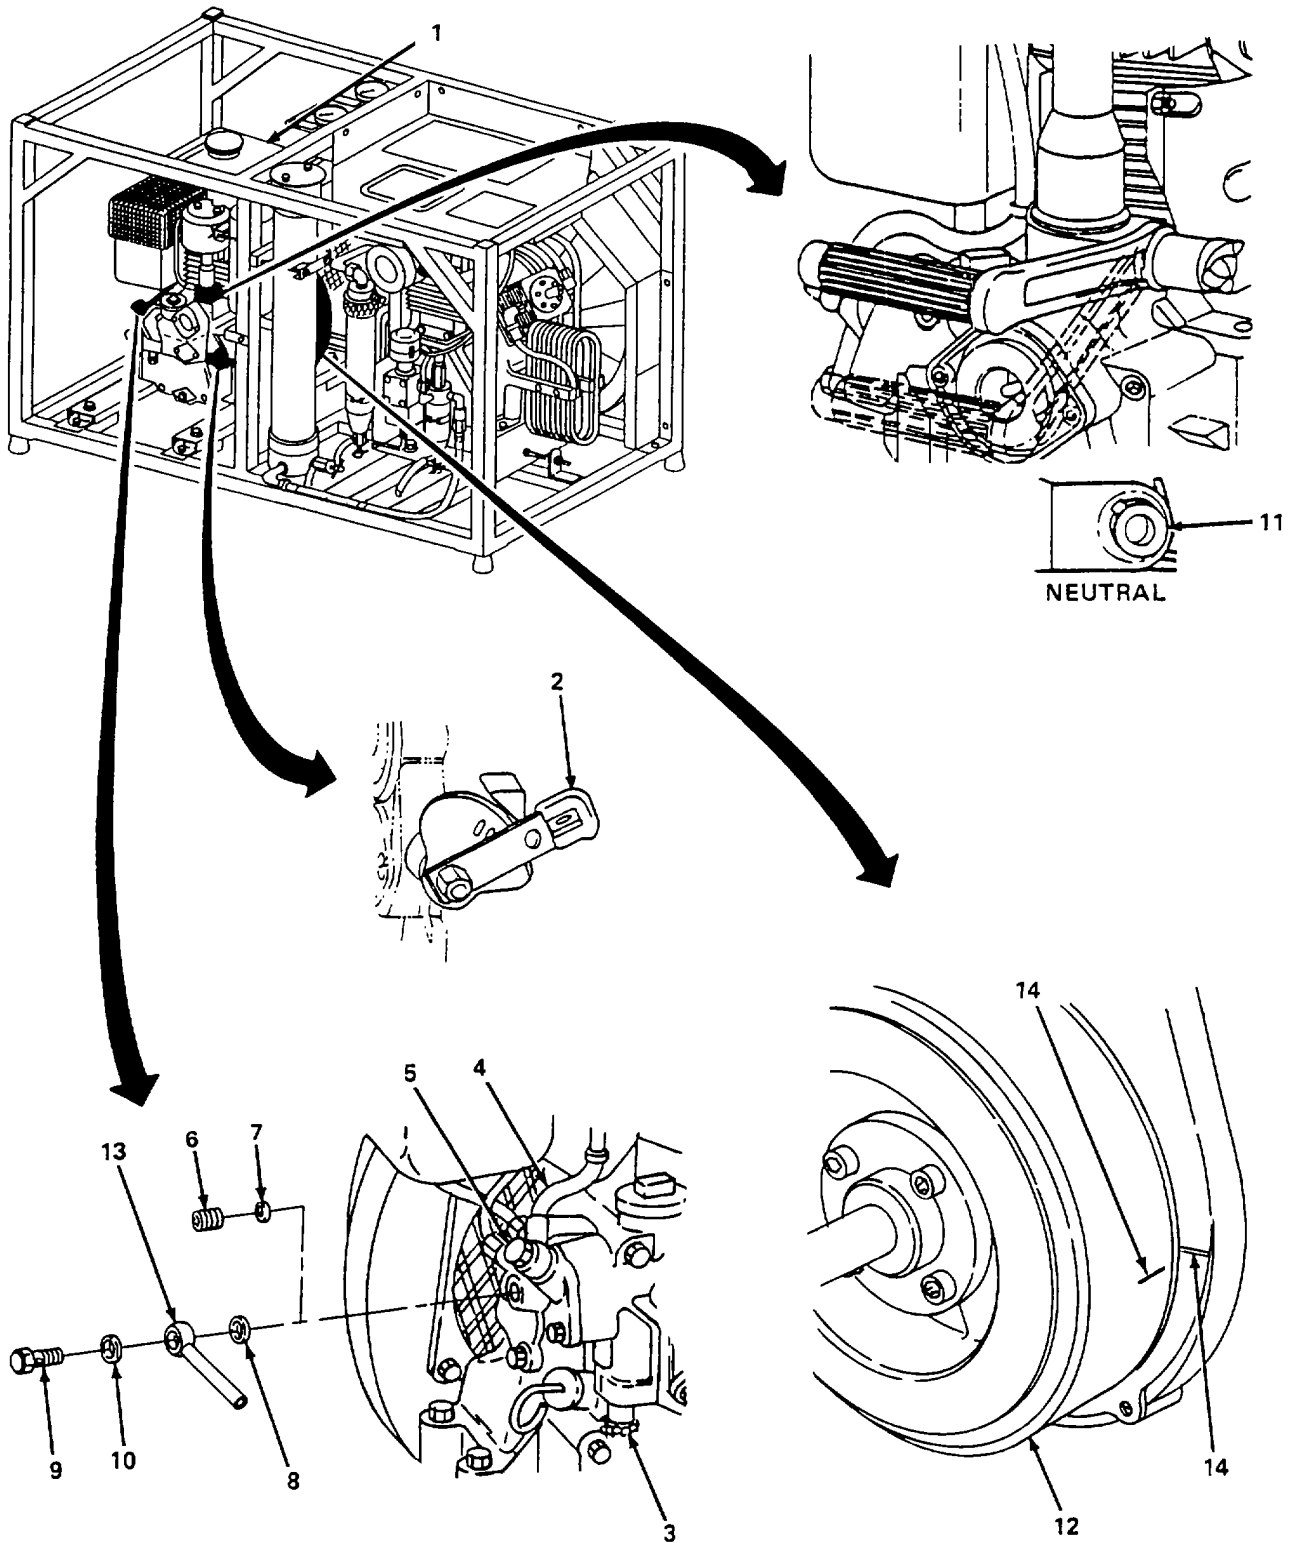

Figure 5-39. Fuel Injector Pump, Adjust.
a. Adjust. (figure 5-39)
- (1) Ensure fuel tank (1) has fuel.
- (2) Set speed control lever (2) to mid-range.
- (3) Ensure primer button (3) is not pulled out.
- (4) Clamp off fuel supply line (4) from fuel tank (1) to injector pump (5).
- (5) Remove plug (6) and washer (7).
- (6) Install washer (8), banjo bolt (9) (with drip tube), and washer (10).
- (7) Open fuel supply line (4).
- (8) Set compression release mechanism (11) to neutral position.
- (9) Rotate flywheel (12) counterclockwise until fuel flows freely from drip tube (13).
- (10) Continue turning flywheel (12) until fuel stops dripping.